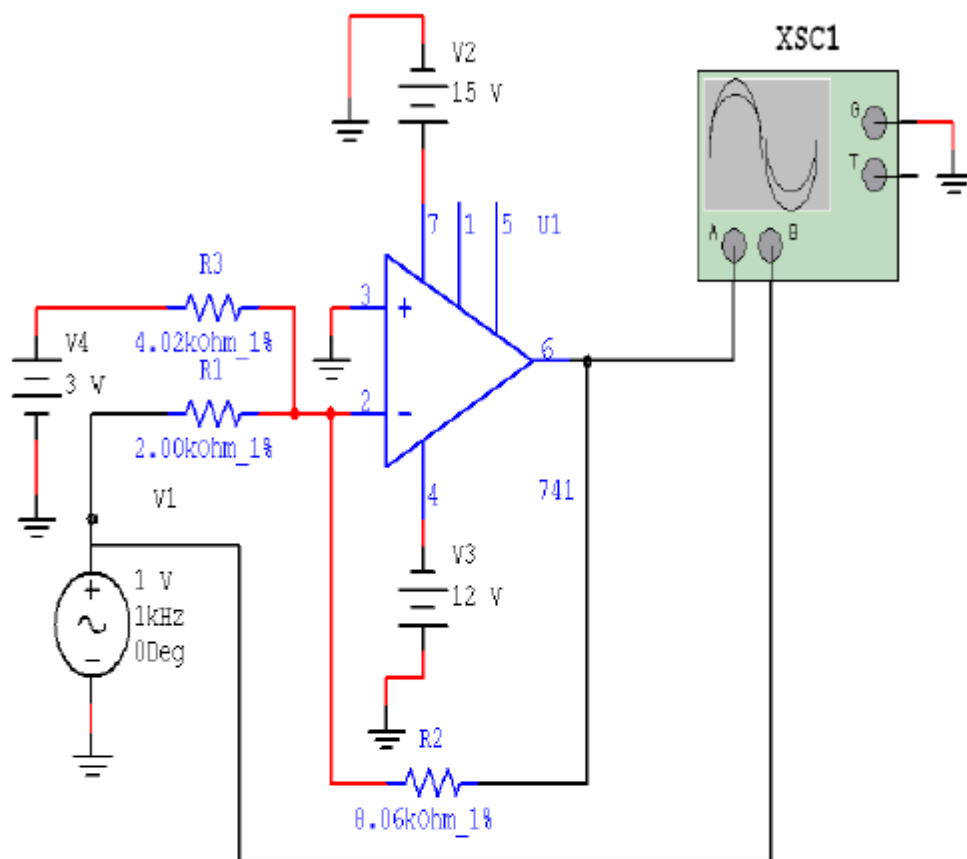

Fig.16 Summing Operational Amplifier
- Construct the circuit shown in Fig.16.